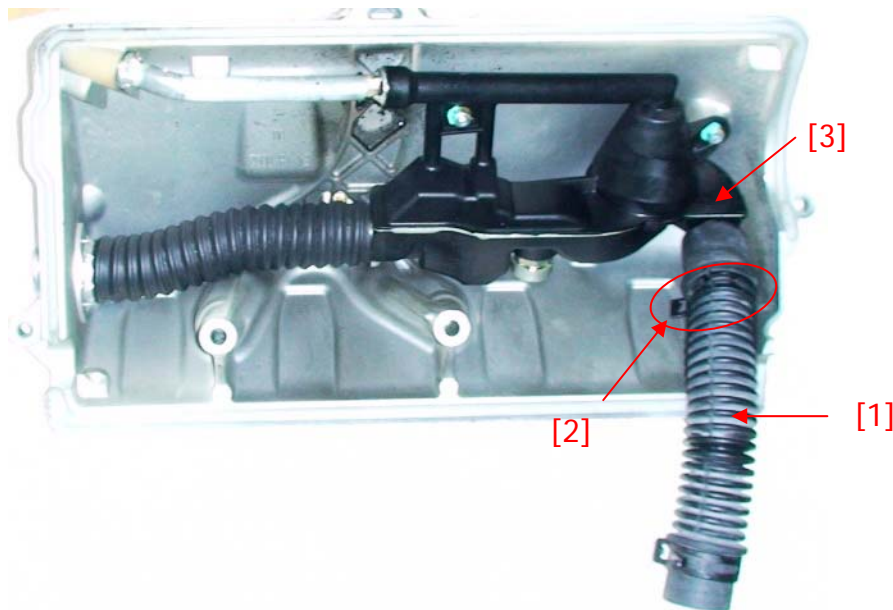

Figure 1: oil separator assembly
2. Disassemble the oil separator hose [1] from the oil separator assembly (see Figure 1) by removing the hose clamp [2] with the tool shown under chapter 3.2. Then pull-off the oil separator hose [1] from the oil separator [3].